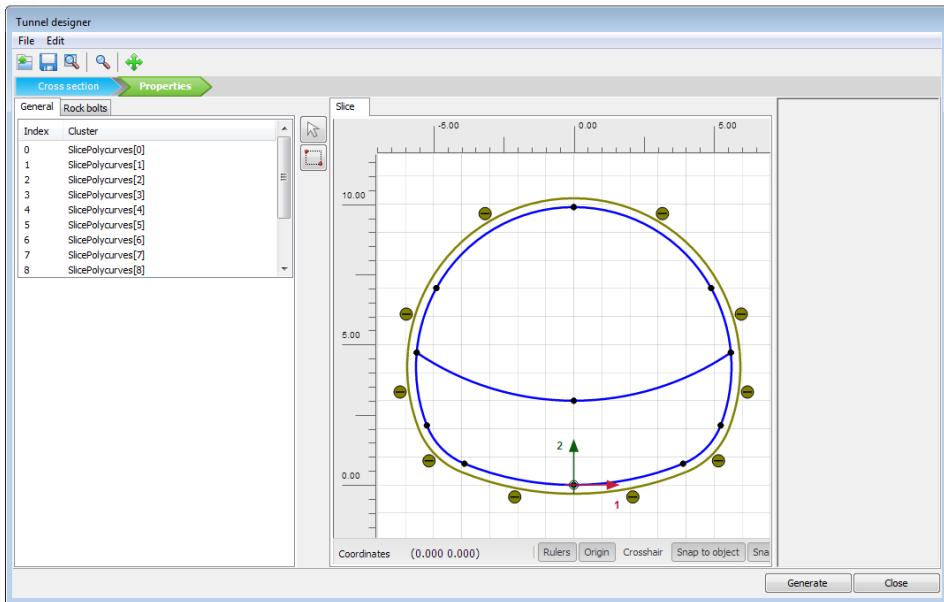

Figure 7.4 Final tunnel
- Assign negative interfaces to the lines defining the shape of the tunnel (not the excavation levels). The final tunnel view in the *Tunnel designer* window is given in Figure 7.4.